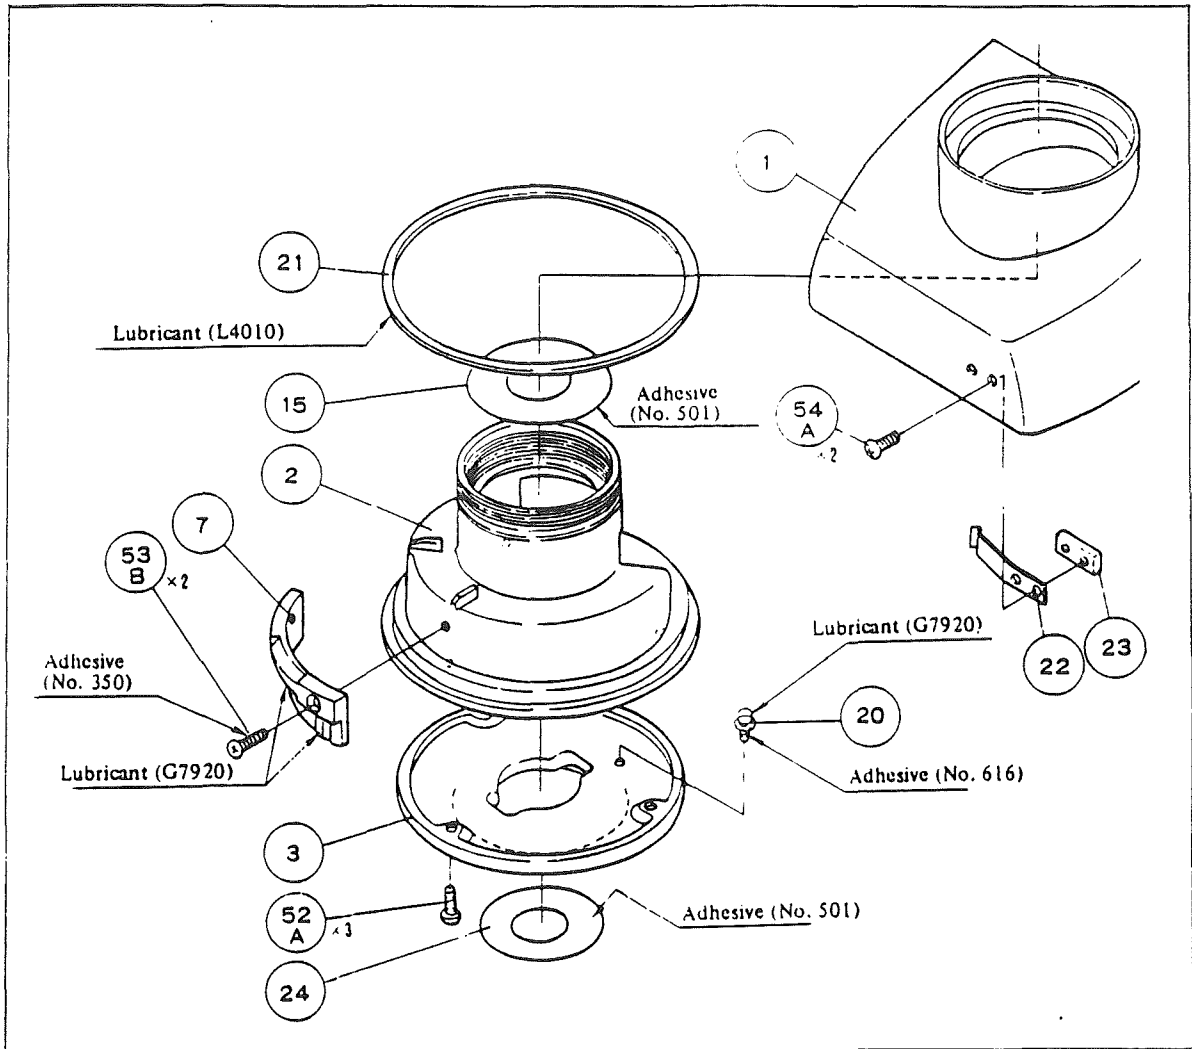

Fig. 5
- Owing to Siedentopf type adopted, even though the interpupillary distance is changed between  $51 \sim 75$  mm, for which prism cover (104) is vertically turned and moved, the tube length keeps constant all the times.
- As shown in Fig. 5, the light rays between (G1), (G2) and (G4), (G5) are made parallel.